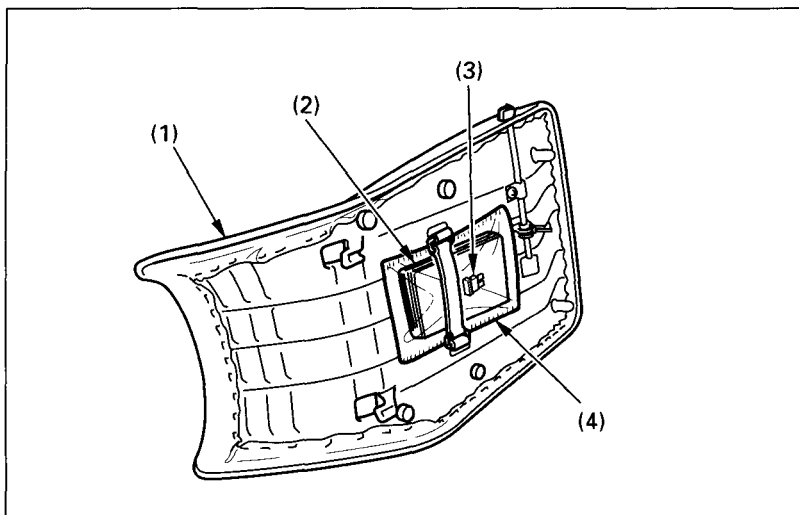

Fig. 2-22
The owner's manual storage area (Fig. 2-22) is located under the seat (1).